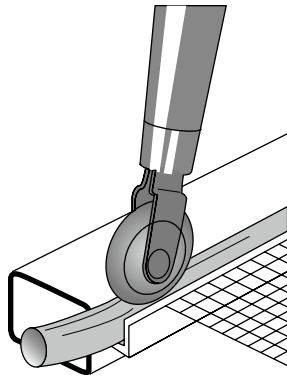

FIGURE 6-7:
5. When an inch or two of the spline is started, use the spline roller to steadily push the spline into its groove around the entire frame. (See Figure 6-7.)